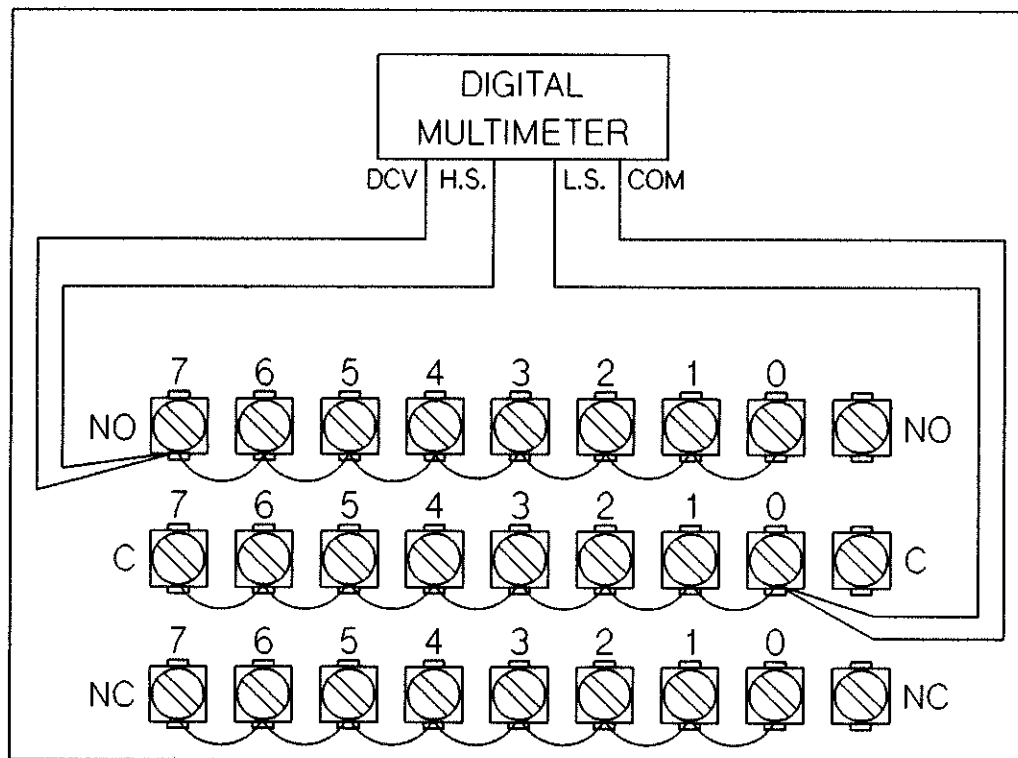

Figure 16-5 HP 44728A NO Channels Contact Resistance Test
3. Set the multimeter to measure four-wire ohms. Connect the multimeter DCV input and high SENSE leads to the NO (Normally Open) connection on the test fixture. Connect the multimeter COM input and low SENSE leads to the C (Common) connection on the test fixture. The connections are shown in Figure 16-5.